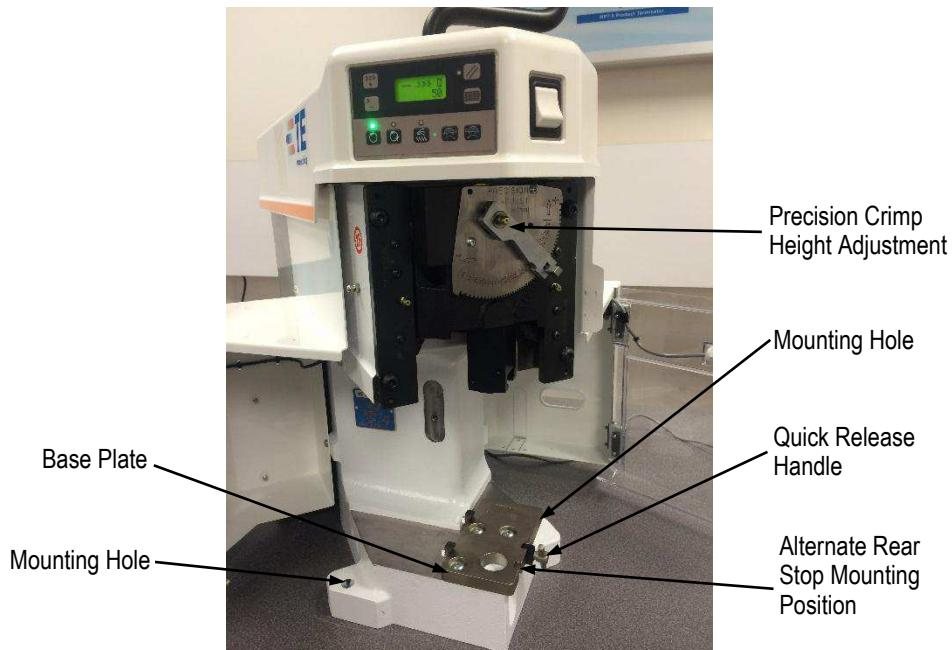

Figure 9
3. The **base plate** provides the mounting surface on which the applicator is installed. The quick-release latching feature permits fast, easy installation and removal of the applicator. See Figure 9.
4. The **crimp height adjustment group** uses an eccentric located in the ram linkage, along with detented stops in the mechanism to adjust the crimp height. Indexing the mechanism in either direction will change the crimp height in increments of approximately 0.01 mm [.0004 in.] per step. Refer to Figure 9 for the Precision Crimp Height Adjustment Mechanism.
*Machines should be securely bolted to the bench using the machine mounting holes shown in Figure 9. Hardware is customer supplied. Machines should not extend beyond the front of the bench.*
1. Loosen the quick-release T-handle (see Figure 9) and slide the applicator base clamp down.
*When using Applicator 567200-2 (originally intended for use with AMP-O-LECTRIC Model "K" terminating machine), loosen the quick-release T-handle, slide down the applicator base clamp, and remove the rear stop located on the left side of the base plate. Install the rear stop (PN 354561-1), supplied with the air feed kit, at the alternate mounting position on the base plate. See Figure 9.*